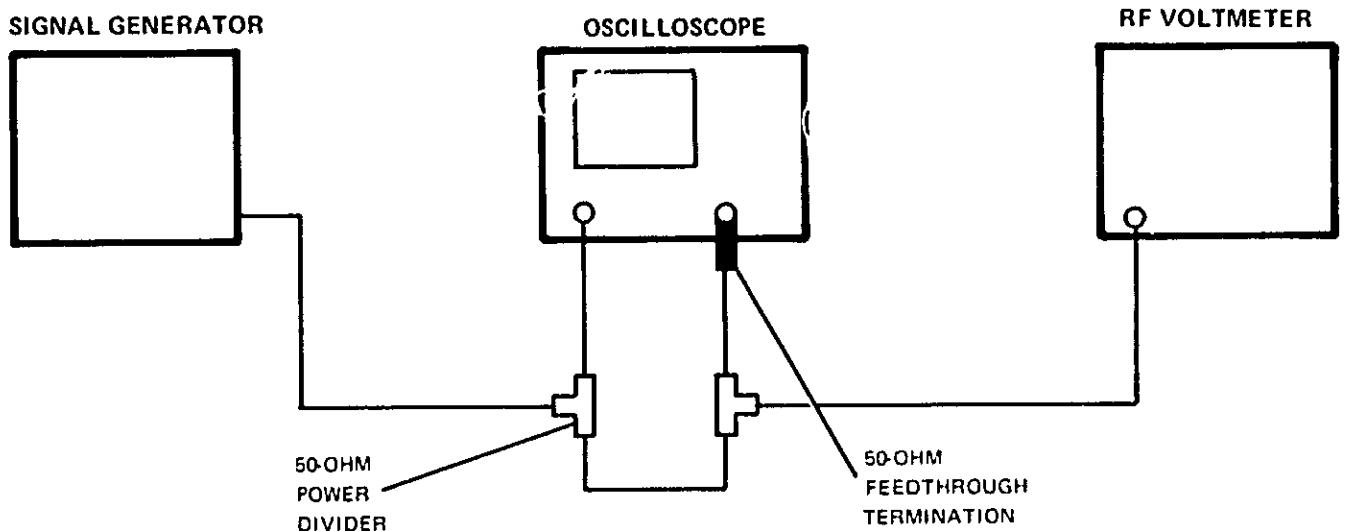

Figure 4-3. External Triggering Test Setup
a. Connect equipment as shown in figure 4-3.